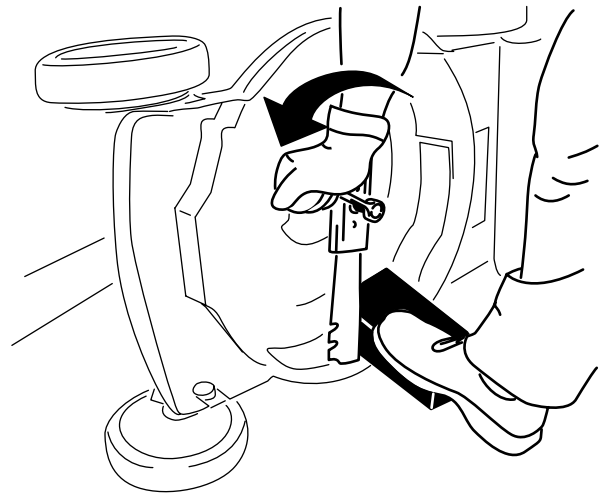

Figure 29
3. Use a block of wood to hold the blade steady (Figure 29).
4. Remove the blade, saving all mounting hardware (Figure 29).